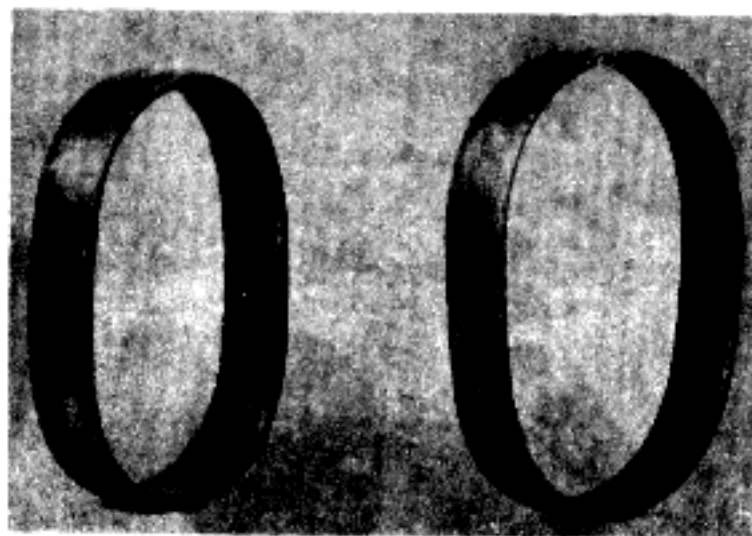
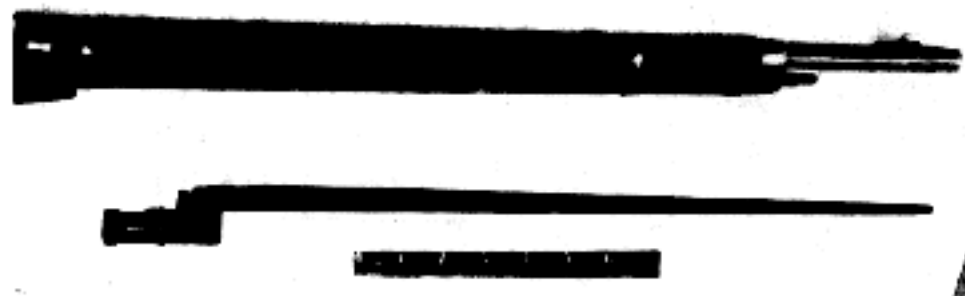

FIGURE 13. STOCK BANDS FOR DRAGON RIFLE M1891.
FIGURE 14. LOCATION OF UPPER BAND ON DRAGON RIFLE M1891.
d. The Dragoon rifle M1891 has solid stock bands (fig. 13). The upper band is placed about 3-1/2 inches from the front end of the stock (fig. 14).